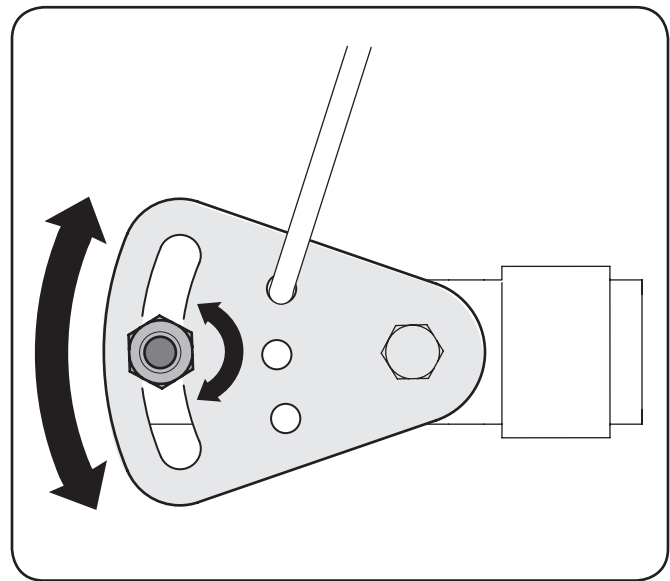

Figure 6-4
If the full range of speeds (forward and reverse) cannot be achieved, refer to the Figure 6-4 and adjust the shift cable as follows:
2. Loosen the hex nut on the shift cable index bracket. See Fig. 6-4.
NOTE: There are extra holes in the speed selector bracket shown in Fig. 6-4 for further adjustment of the cable if required.